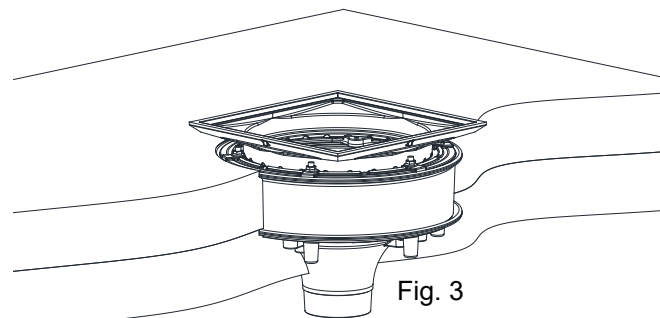

Fig. 3
Step 9 - Place the four clamp dogs on top of the bottom rim of the frame and align the slots in each clamp dog with the tappings in the clamping collar. Insert a bolt through each clamp dog slot and thread into the clamping collar. (Fig 3) Hand-tighten the bolts until final alignment adjustments are made to the frame. Once the frame is in proper position, tighten the four clamp dog bolts down to a torque of 20-25 ft-lbs.